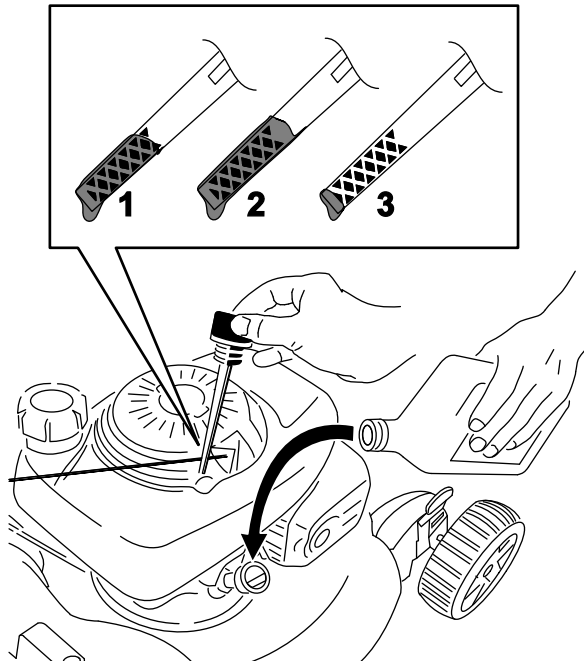

Figure 11
2. Remove the dipstick by rotating the cap counterclockwise and pulling it out (Figure 11).
5. Read the oil level on the dipstick (Figure 11).
- If the oil level on the dipstick is too low (Figure 11), carefully pour a small amount of SAE 30 or SAE 10W-30 detergent oil into the oil-fill tube, wait 3 minutes, and repeat steps 3 through 5 until the oil on the dipstick is at the correct level.
- If the oil level on the dipstick is too high (Figure 11), drain the excess oil until the oil on the dipstick is at the correct level; refer to Changing the Engine Oil \(page 16\).